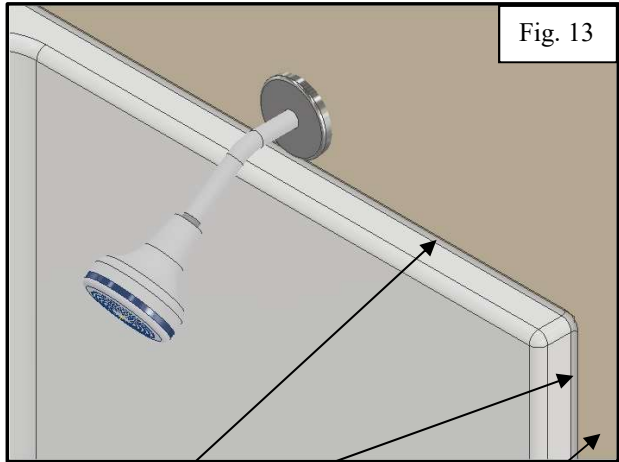

Fig. 13
- 8) If drywall finish is to be used, place drywall over fastening flange, screw drywall into the studs. Mud, tape and finish. Run a bead of silicone around perimeter of part and bottom of apron. (Fig. 13 & 14)